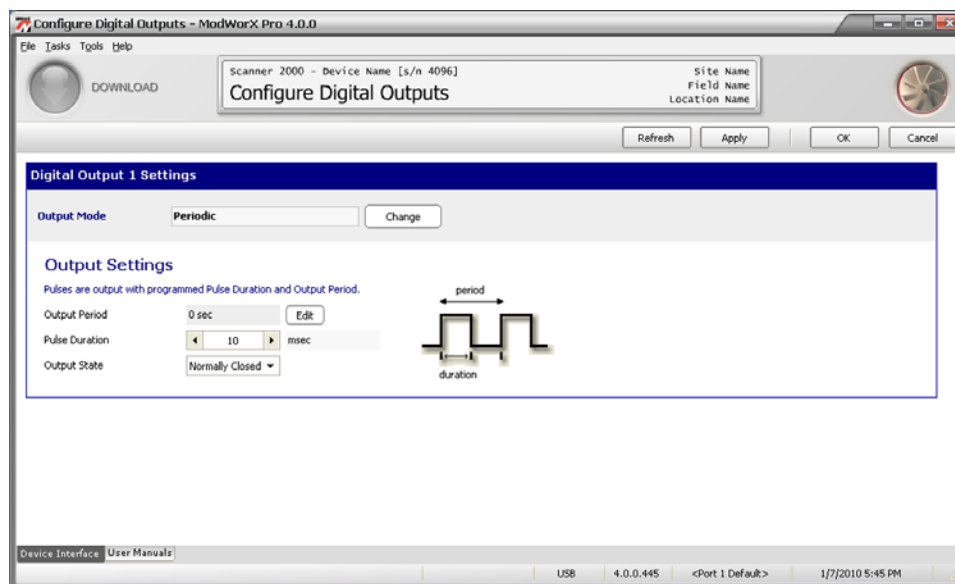

Figure 7.8
2. Click **OK** to save the setting and return to the Configure Digital Outputs screen (Figure 7.8, page 99).